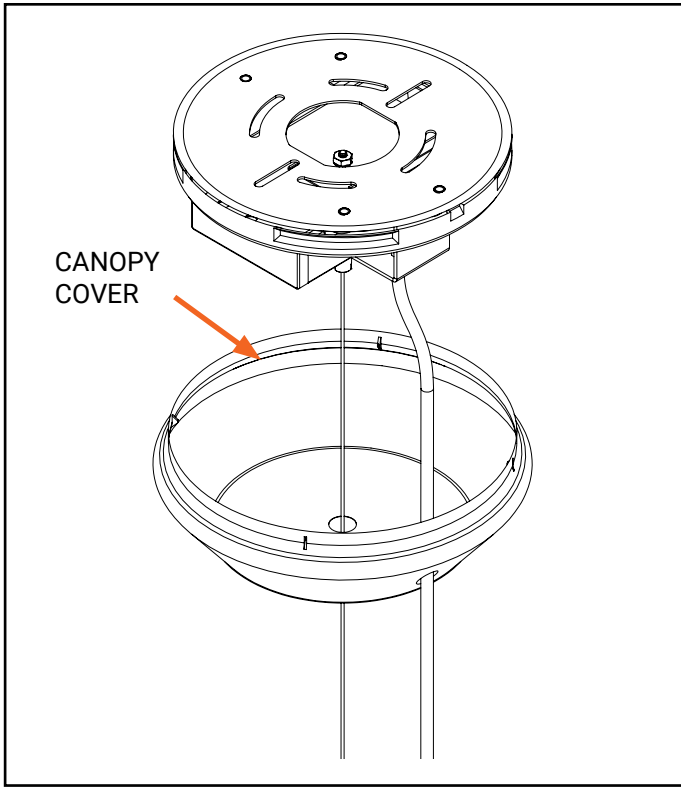

Figure 3
3. Take out the **Canopy Cover (G)** by pulling down. (Figure 3)